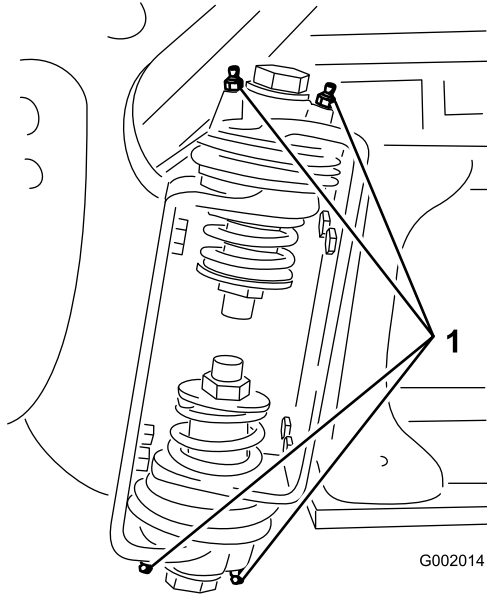

Figure 48
2. Pump grease into the bearing or bushing at each fitting Figure 48.